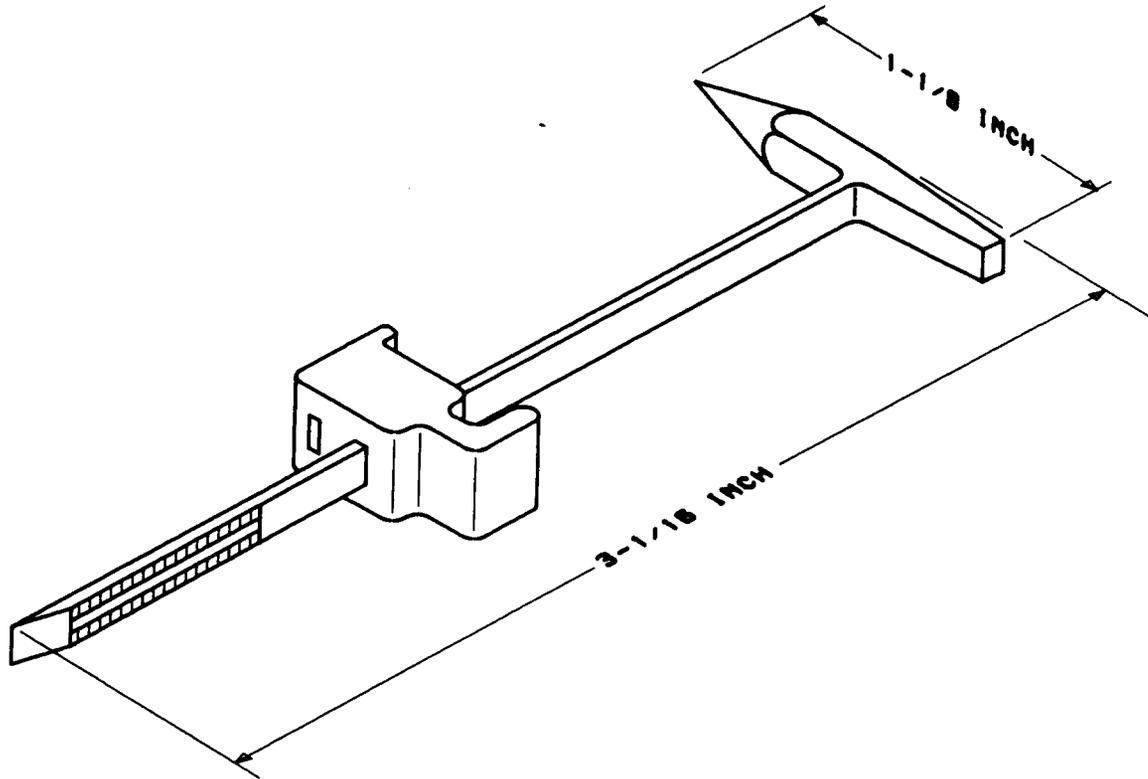

Fig. 5—B Wallboard Clamp
3.05 This clamp (Fig. 5) is used to support station wire (D), inside wiring cable, and customer convenience cords. Refer to Fig. 6 for installation procedures for the B wallboard clamp.